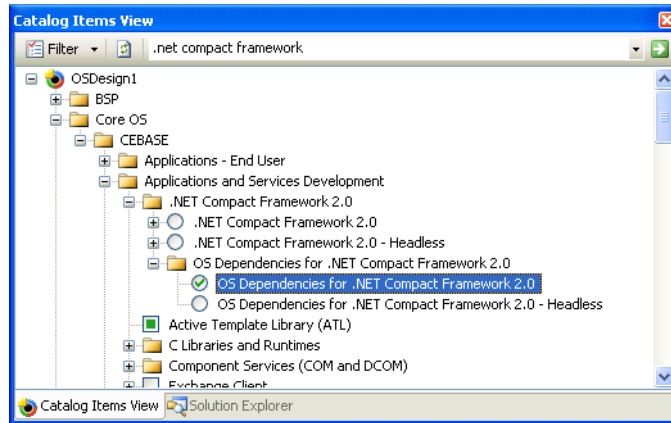

Figure 1-11 Adding the OS Dependencies for .NET Compact Framework 2.0 catalog item to an OS design
7. Use the search feature in a similar way to locate the OS Dependencies for .NET Compact Framework 2.0 container. Verify that the OS Dependencies for .NET Compact Framework 2.0 catalog item is included in your OS design, as illustrated in Figure 1-11.